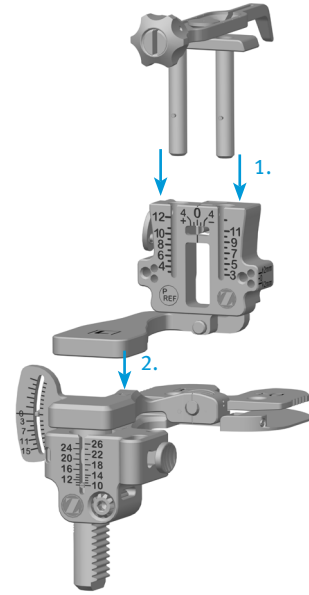

Fig. 6
- Assemble the *Zimmer FuZion Sizer* (Fig. 6).
- Attach the *Zimmer FuZion Sizer* to the proximal face of the *Zimmer FuZion Femoral Assembly*. The wide flat distal face of the *Zimmer FuZion Sizer* will magnetically attach to the *Zimmer FuZion Tensor* (Fig. 6).